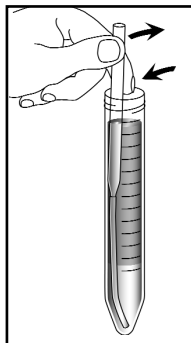

Figure 2
6. Insert the CHEMet assembly (tubing first) into the reaction tube making sure that the end of the flexible tubing is at the bottom of the tube. Break the tip of the CHEMet ampoule by gently pressing it against the side of the reaction tube (fig. 2). The ampoule should draw in fluid only from the organic phase (bottom layer).